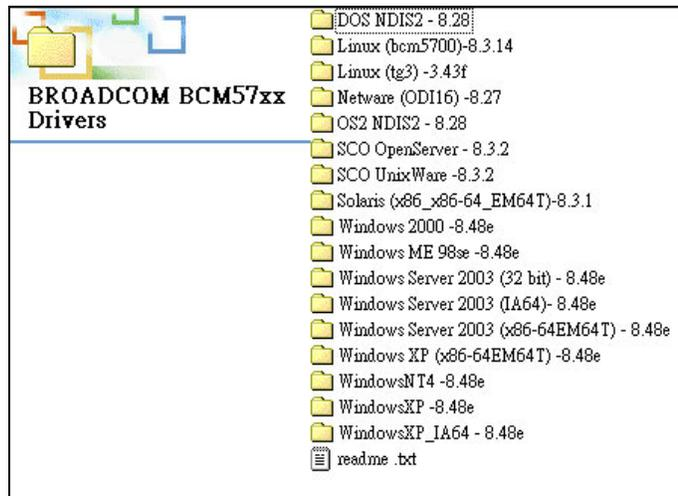

Figure 6-21: Location Browsing Window
Step 8: Select the proper OS folder under the “X:\3-LAN\BROADCOM BCM57xx Drivers” directory (Figure 6-21) in the location browsing window, where “X:\” is the system CD drive.